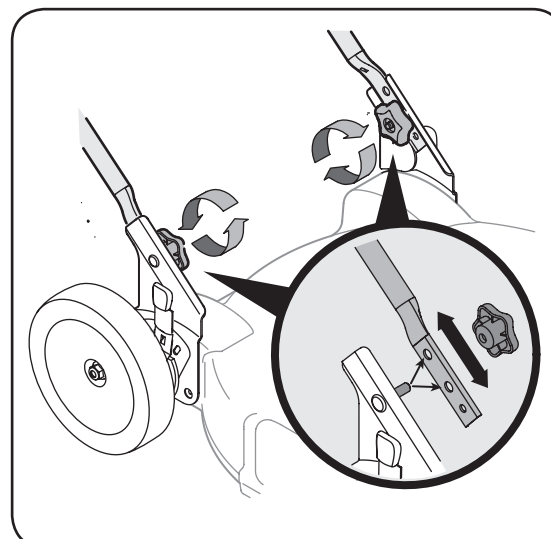

Figure 3-3
3. If satisfied with height of handle, tighten knobs at the ends of the lower handle shown in Figure 3-3. For convenience of operating, you may adjust the handle height as follows:
- a. Remove the knobs shown in Figure 3-3 and remove the lower handle.
- b. Position each handle bracket stud into the top hole in the lower handle. See Figure 3-3 inset.